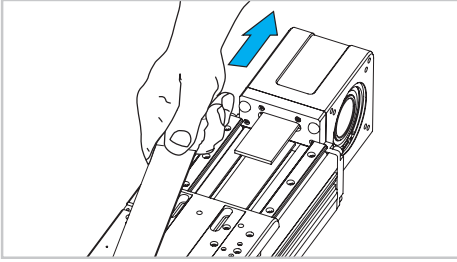

Fig. 6
- 3) Remove the drive belt from both ends of the carriage (Fig. 5) and pull off (Fig. 6). To re-assemble the belt, carry out the same operations in the opposite way repositioning the belt tensioner at the initial distance X.